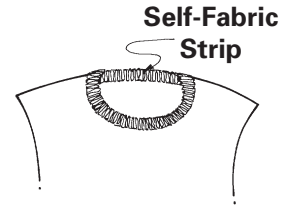

Fig. 23-6
- Use a separate strip of self-fabric (the garment fabric) under the decorative serging. Then trim the excess width close to the stitching. (Fig. 23-6)